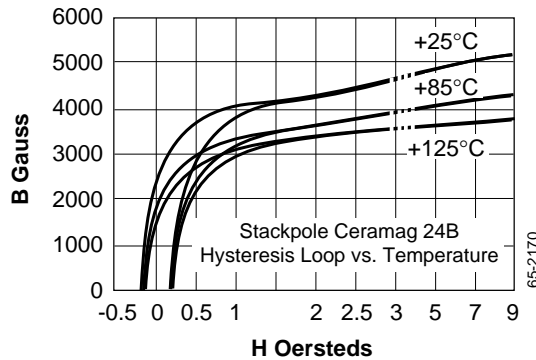

Figure 26. Typical Manufacturer's Curve Showing Saturation Effect
**Second Difference:** Resistance is a linear function. As voltage increases, current increases proportionally, and the resistance value stays the same. In a magnetic circuit the value of permeability varies as the applied magnetic force varies. This nonlinear characteristic is usually shown in graph form in ferrite core manufacturer's data sheets. See Figure 26.
The curves shown in Figure 26 are typical of the ferrite manufacturer's power HF material, such as Siemens N27 or Stackpole 24B, which are usually offered in standard millimeter sizes including the sizes shown.